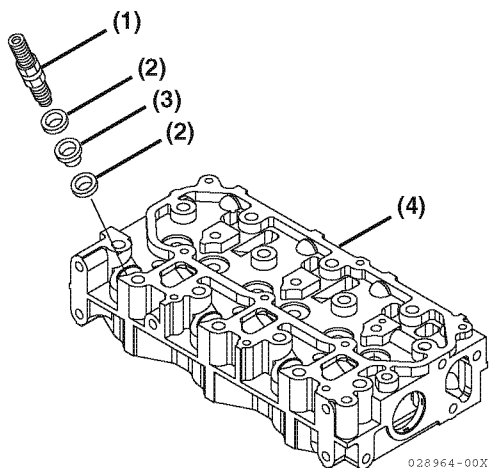

Figure 5-120
1. Loosen the fuel nozzles (Figure 5-120, (1)) from the cylinder head (Figure 5-120, (4)).
2. Remove the fuel nozzles, nozzle seats (Figure 5-120, (2)) and nozzle protector (Figure 5-120, (3)).